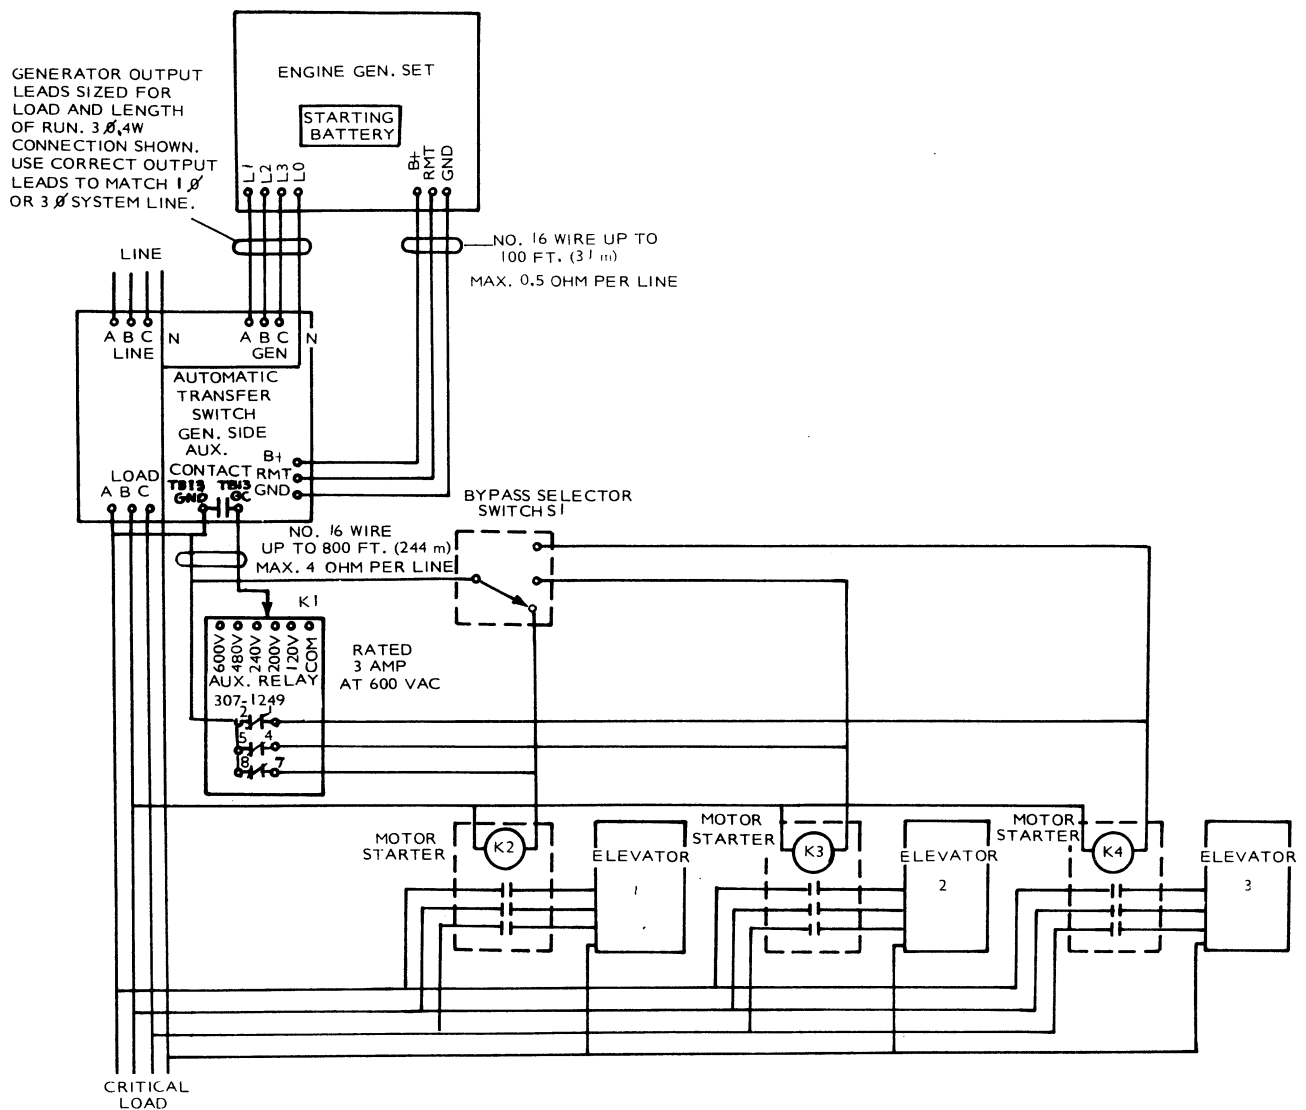

FIGURE 11. STANDBY PROTECTION OF ONE ELEVATOR AND CRITICAL LOAD WITH ONE GENERATOR SET AND ONE "AT"
7. One generator set and one automatic transfer switch protect only one elevator and the critical load (Figure 11). A selector switch is used to select which elevator will operate with standby power. While the generator set must have the rating to operate the critical load and one elevator, the automatic transfer switch must be rated to carry the critical load plus all the elevators.